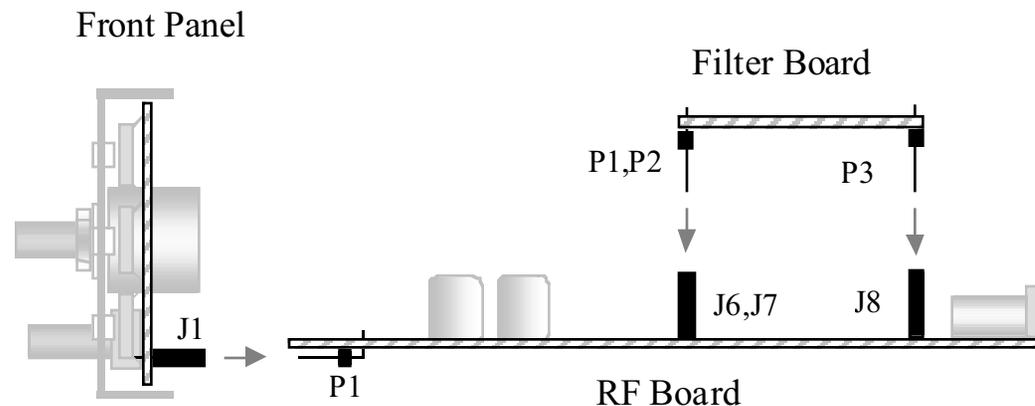

Figure 3-3
Figure 3-3 shows a side view of the PC boards and board-to-board connectors. As can be seen in the drawing, the Front Panel board has a connector **J1** which mates with right-angle connector **P1** on the RF board. The Filter board has three connectors, **P1**, **P2** and **P3**, which mate with **J6**, **J7** and **J8** on the RF board.
**These multi-pin connectors are difficult to remove once soldered in place. Refer to Figure 3-3 during assembly to make sure you have each connector placed correctly before soldering. If you install a multi-pin connector incorrectly, clip all of the pins at the body of the device first, remove all of the pins individually, and call us to request a new connector. You may damage pads and traces by trying to remove such components intact.**